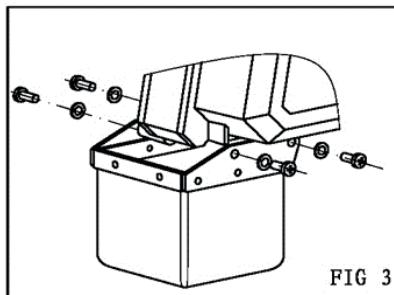

FIG 3
Load chain removal/installation (see figures 3, 4, 5)
1. Remove the chain bag (fig. 3)